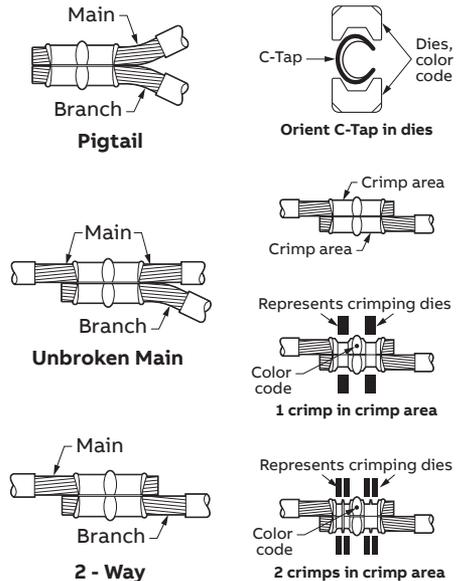

Figure 2
4. Place C-Tap over main cable and branch cable. See Figure 2 for typical applications.